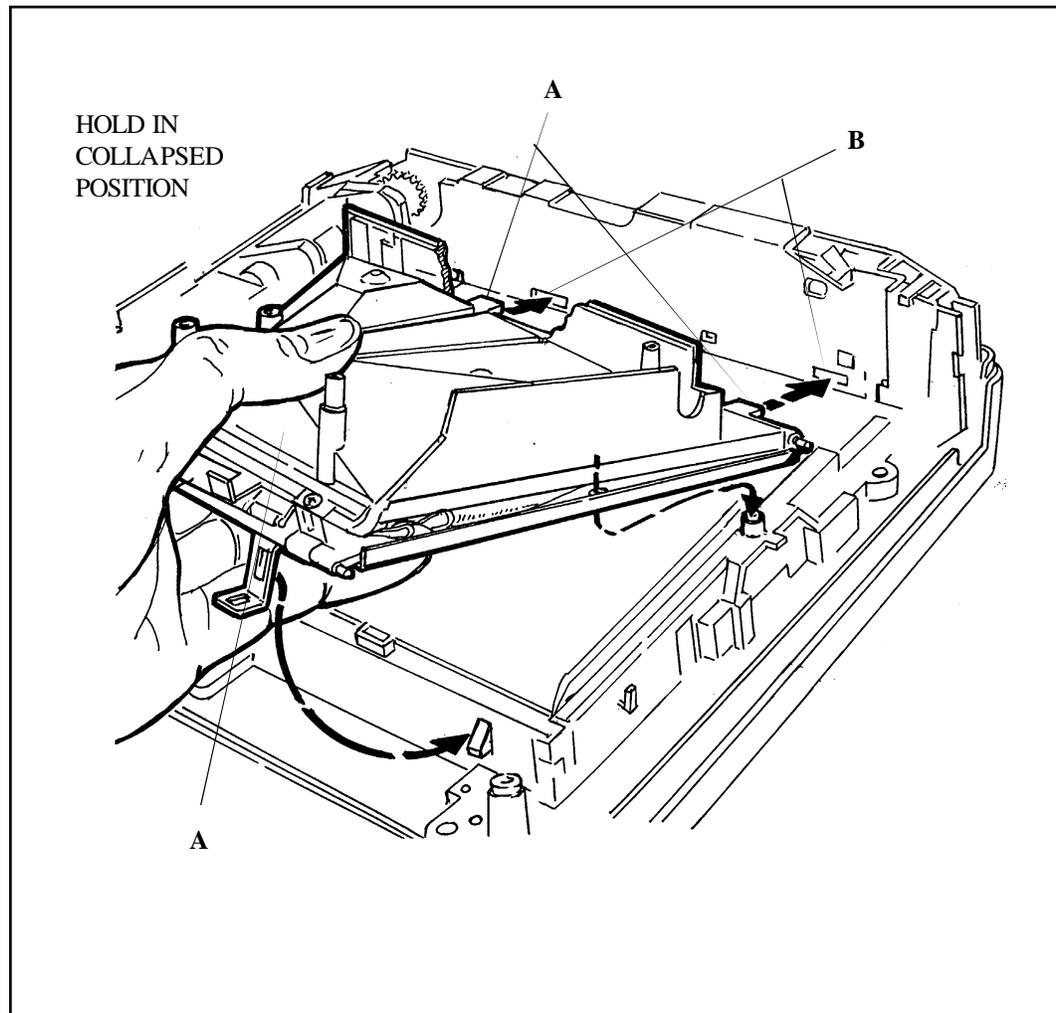

Figure 3-32. Bellows/Cone Assembly Ready for Installation in Mainframe
- a. Manually push in the spring-loaded erecting mechanism **A** and hold the Bellows/Cone Assembly down in a collapsed position (Figure 3-32).
- b. Keeping the Assembly collapsed and at a slight angle to the Mainframe (Figure 3-32), insert the tabs **A** into slots **B** in the rear wall of the Gear Drive, and be sure the end of the hinge pin **C** seats in its recess **D**. (If a stop screw was present at the end of the hinge pin, replace it now.)